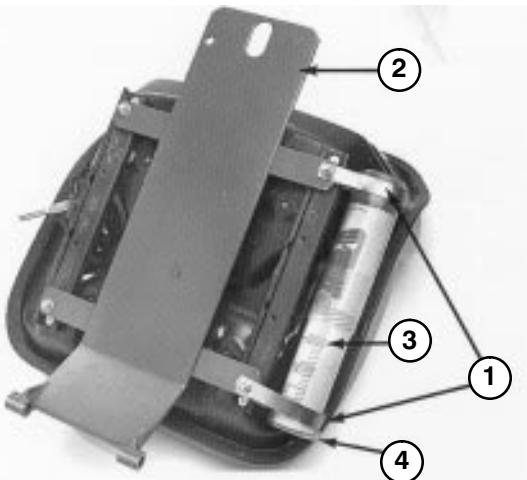

Figure 7
- Loosely secure (2) R-clamps to right side of seat bottom with (2) capscrews and flatwashers supplied in kit (Fig. 7). Install manual tube into R-clamps and tighten capscrews (Fig. 7).
- Insert pin part way into hole in top of seat support bracket on machine (Fig. 7).